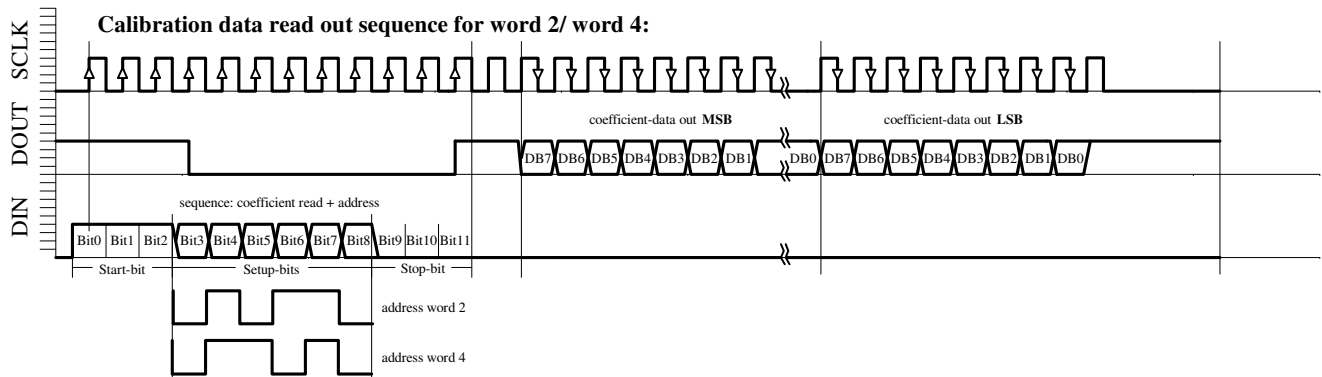

Fig. 6d: W2, W4 READING sequence
- Calibration data read-out sequence for Word2 (Figure 6d)
- Calibration data read-out sequence for Word4 (Figure 6d)